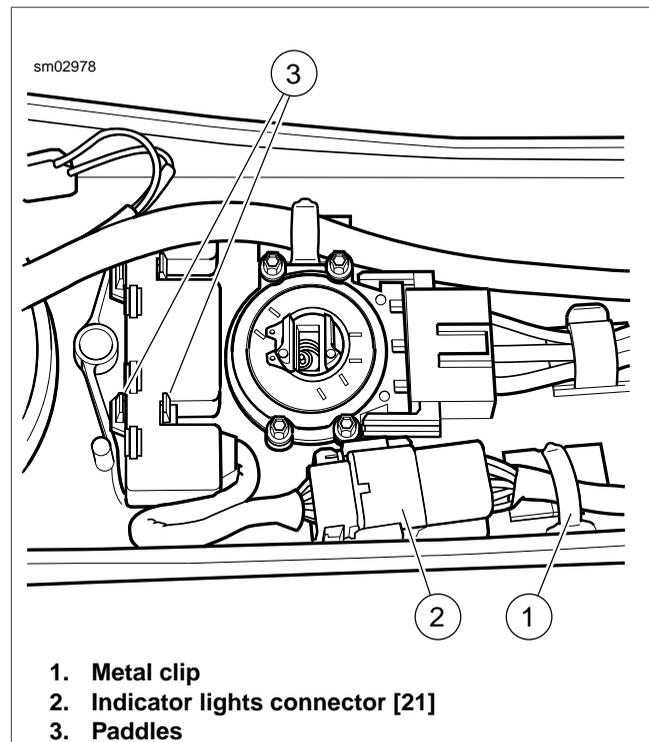

Figure 8-90. Release Paddles to Free Indicator Lights Assembly (FLHR/C)
6. Disconnect indicator lights connector [21], 8-place Deutsch (black). If necessary, bend flexible metal clip to free connector conduit. See Figure 8-90.